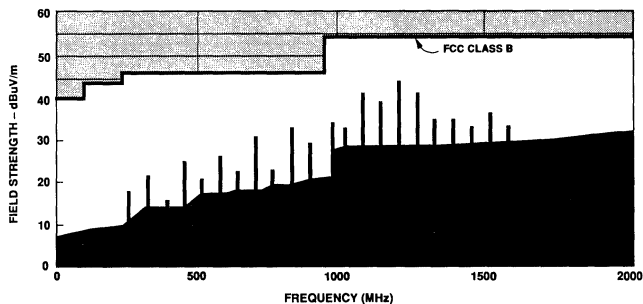

Figure 13. HFBR-5102, Typical Electric Field Strength at 3 m, 125 MBd.
31. The transceiver under test was supplied with a 62.5 MHz square wave (125 MBd) optical signal from outside a semi-anechoic chamber to the receiver section located inside this chamber. An input optical power level of -20 dBm average was applied. Electrical output signals from the receiver section were connected directly to the electrical input of the transmitter section of the test transceiver. In turn, the transmitter section returned the optical data to a receiver outside the test chamber to be compared for data integrity. The noise floor of Figure 13 is dictated by the measuring equipment. From DC to one GHz, one set of test instrumentation monitored the emissions. Above 1 GHz, a different instrumentation system measured emissions up to 2 GHz. The difference in the bandwidths of the two systems causes the discontinuity in the noise floor at 1 GHz.
32. Tested at 125 Mb/s and with a data-pattern PRBS $2^{17}-1$. The sampling clock is adjusted to minimum (0.0 ns) delay and incremented in 0.5 ns steps up to a total of 7.5 ns delay. At each clock delay increment, the BER is checked. The total number of delay positions (N) yielding a BER $< 1E-5$ is recorded. The Receiver Saturation level is the highest input optical power at which $N \geq 9$.
Figure 13 shows typical radiated emissions from a sample of HFBR-5102 transceivers. The units meet FCC Class B far-field emission limits at three metres with the transceiver mounted on a printed circuit board in an open, unshielded environment within an approved semi-anechoic chamber. See note 31 for details on the test method.